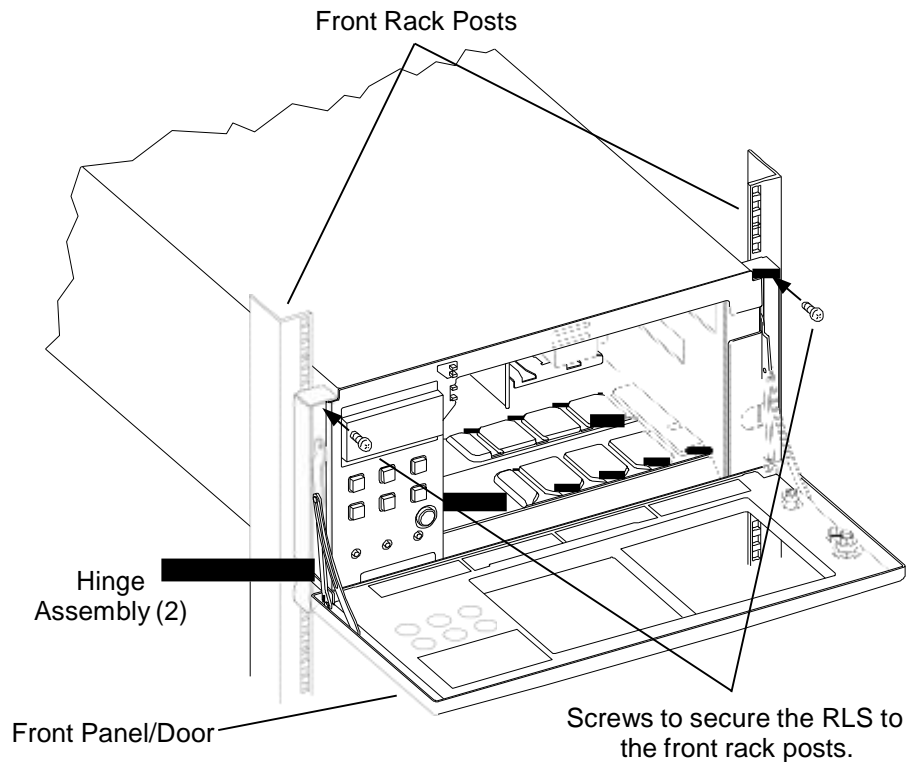

Figure 5-15 Detail of the Screws Securing the RLS to the Front Rack Posts
9. Insert one of the screws through the oblong opening in the front of the RLS cabinet just above the hinge assembly on the left side of the RLS. See Figure 5-15. Use a Phillips screwdriver to thread the screw into the rack post and tighten it securely.
2. Use a Phillips screwdriver to remove the pan head screws located on the left and right sides of the front of the RLS just above the hinge assemblies. See Figure 5-15.